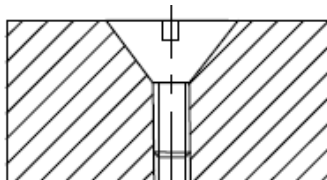

figure 19
35. The symbol of the screw in Figure 19 below